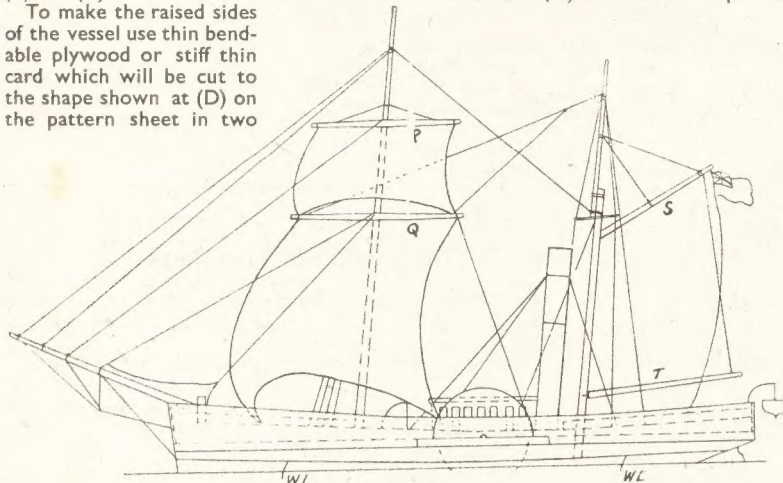
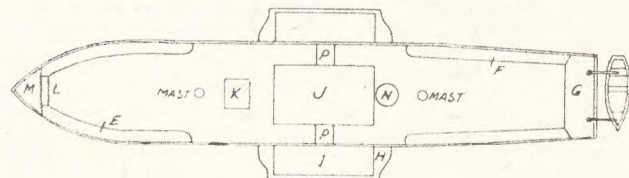
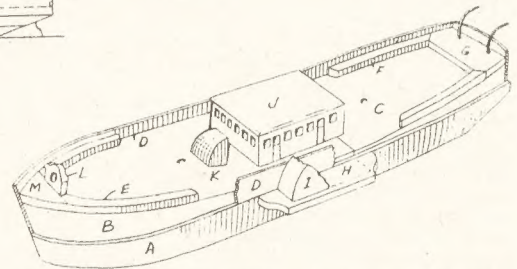

Fig. 2—Side view, with dotted lines of adjoining parts
Fig. 1—Plan of deck and hull
Fig. 3—Constructional details of hull and paddle box
type, and measures—without its base—13½ ins. long overall and its height is 8 ins. The plan at Fig. 1 and side view, Fig. 2, will be found very useful when assembling the various parts of the model. The full-size patterns, too, of many of the important parts, are given on cover iii.
The engine room and cabin (J) can be cut as a solid block from  $\frac{1}{8}$  in. wood and measures  $1\frac{1}{2}$  ins. by 1 in., with windows and doors painted on. The shaped companion head (K) is a simple block, as given in two views on the pattern sheet. The upright (L) also on the sheet, carries the bowsprit and is of  $\frac{1}{8}$  in. wood. Just in front of this piece (L) is a small angular piece (M) glued between the pieces (E) on the sides. Fig. 3 shows the position of all these parts.
Fig. 4, to draw on parchment paper or ordinary cartridge drawing paper. Glue the sails to the spars as shown and bind with fine cord at places, excepting the foresail which will have cords attached. The rigging of the masts can be carried out with fine thread, the arrangement being taken from Fig. 2.
In painting the model use ordinary oil paint or enamel. The hull should be black with a bright red waterline (marked W.L. in Fig. 2). The upper sides of the model above line of deck, should be painted cream. The deck is light brown lined up to represent the planking. The cabin is white with windows painted blue with black frames.
It should be mentioned that the little semi-circular blocks (P) on the pattern sheet are cut from  $\frac{1}{4}$  in. wood and shaped to represent the deck casing to the spindles carrying the paddle-wheels. Note their position on the plan, Fig. 2. The funnel is painted red with a black banding.
sections. The plan of the ship, Fig. 2, and the view showing construction, Fig. 3, show how the bent sides appear when glued to the raised blocks at bow and stern. A large portion of the foremost side is shown cut away for sake of clarity.
We give a pattern full-size of one of the davits for the boat, and pieces of suitable wire may be bent and fixed in the two holes shown in piece (G). Short pieces of thread or fine wire suspend the boat (see Fig. 2) plan and side view. The two masts are from  $\frac{1}{8}$  in. diameter round rod, the fore mast being shaped to taper slightly upwards. The mizen will not be shaped at all, as there will be a top spar spliced to it, as seen in Fig. 2. The main mast is  $7\frac{1}{2}$  ins. long; the mizen  $4\frac{1}{2}$  ins. long, and the top spar or mast  $2\frac{1}{2}$  ins.,  $\frac{1}{8}$  in. of this being used for splicing on the mast.